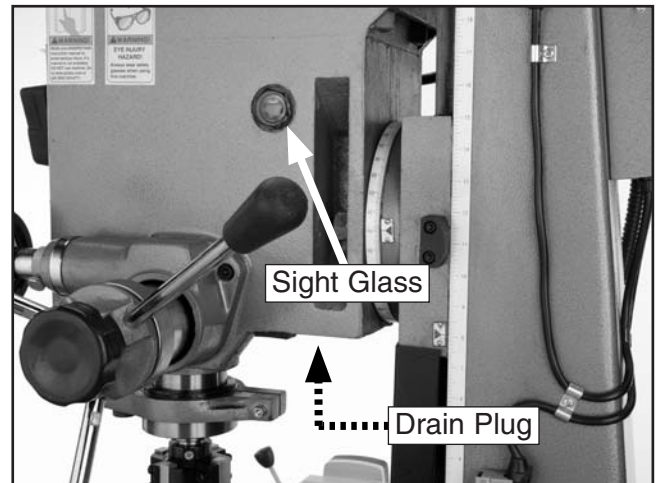

Figure 31. Headstock oil access and lubrication.
2. Locate the drain plug (**Figure 31**).